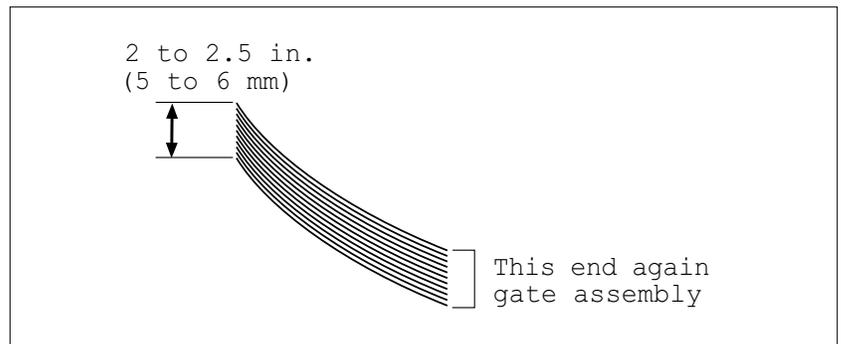

Figure 3-6. Preshingling a Small Stack of Material By Hand
1. Grasp a handful of material, approximately 2 to 2.5 in. (5 to 6 cm) thick, and preshingle the edges with your thumb (Figure 3-6).